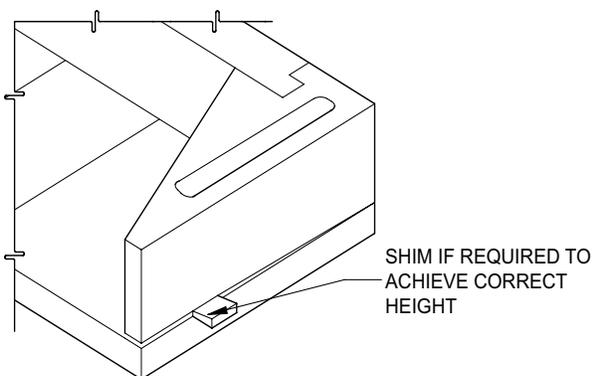

FIGURE 9
Earthcore mortar is not intended to create a mortar joint of any thickness for leveling purposes. Therefore, leveling and alignment adjustments are made by the use of small plastic shims supplied with the unit. (Figure 9)
Step 4: When all of the firebox wall components are set, check the top surface of the firebox for level. If necessary, adjust the top surface of the box assembly for level by inserting a shim between the lowest wall component and the top surface of the base plate. (Figure 9)